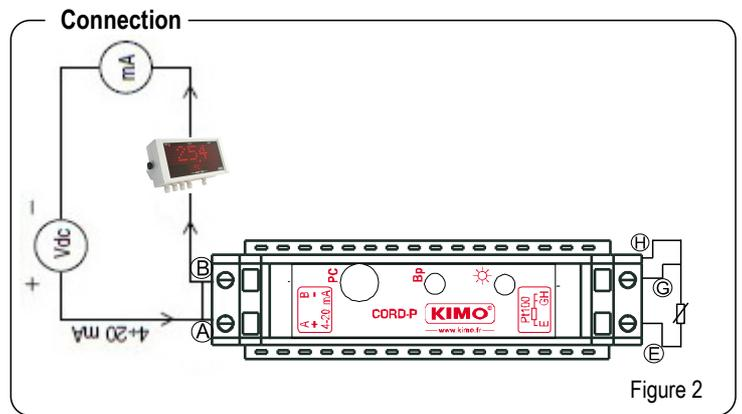

Figure 2
Figure 2 shows the wiring diagram of the transmitter in the current loop. To get a better accuracy, use 3 wires with the same section to plug to the Pt100, this allows to guarantee the same impedance to each branch. A device can be introduced in the current loop such as a display, a controller or a data logger.
- Connect the converter to set to the power supply, to the ammeter and to the Pt100 calibrator (see figure 2). then make a long press on the configuration button. The led blinks twice during the push. When the blinks become faster, release the button : programming mode is active.